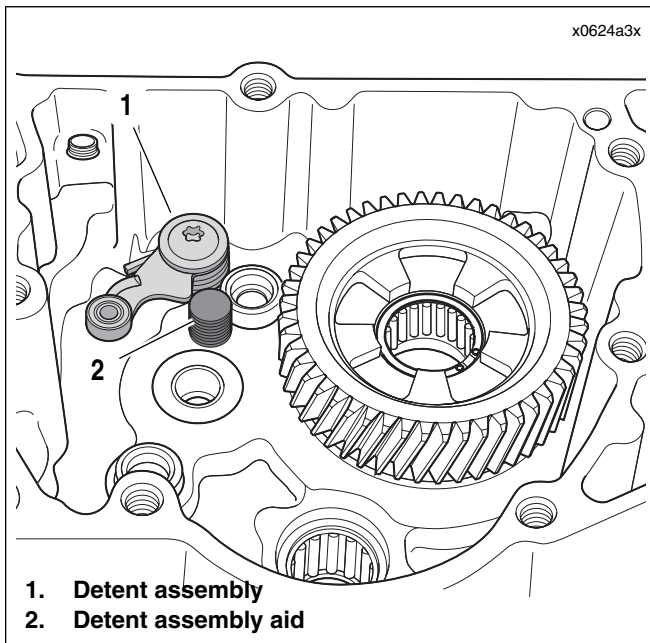

Figure 6-91. Using Gear Detent Assembly Aid (Part No. B-45520)
2. See Figure 6-91. Retract detent assembly in right case half and install GEAR DETENT ASSEMBLY AID (Part No. B-45520) until it has bottomed in right case half.